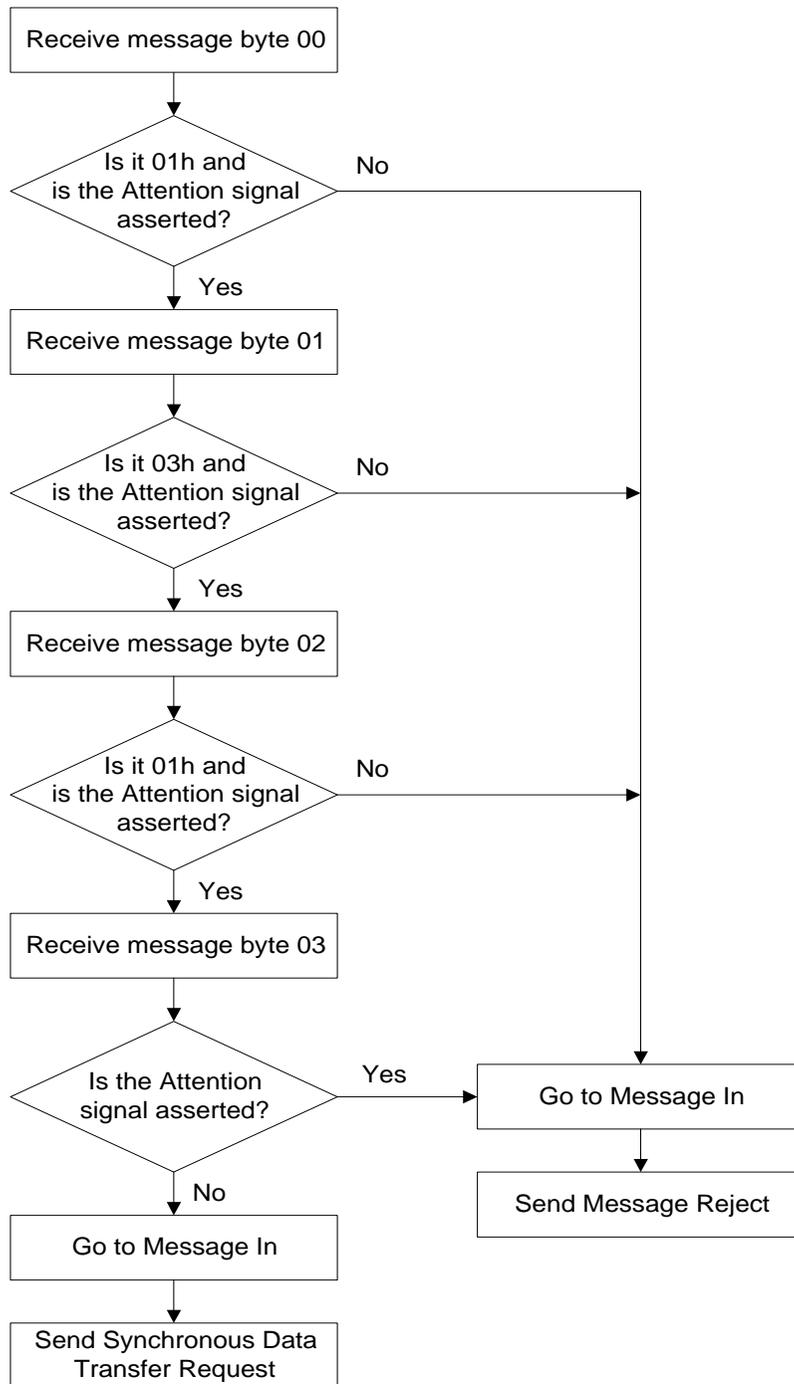

Figure C-6 Message processing of Extended Message Out bytes
Figure C-6 shows how Extended Message Out messages are processed. Note that the Attention signal must coincide with the message byte numbering sequence. The tape drive responds to the initiator's Synchronous Data Transfer Request with a transfer period of *xx* or 32h (200 nanoseconds), whichever is larger (slower), and a REQ/ACK offset of *yy* or Fh (15), whichever is smaller.